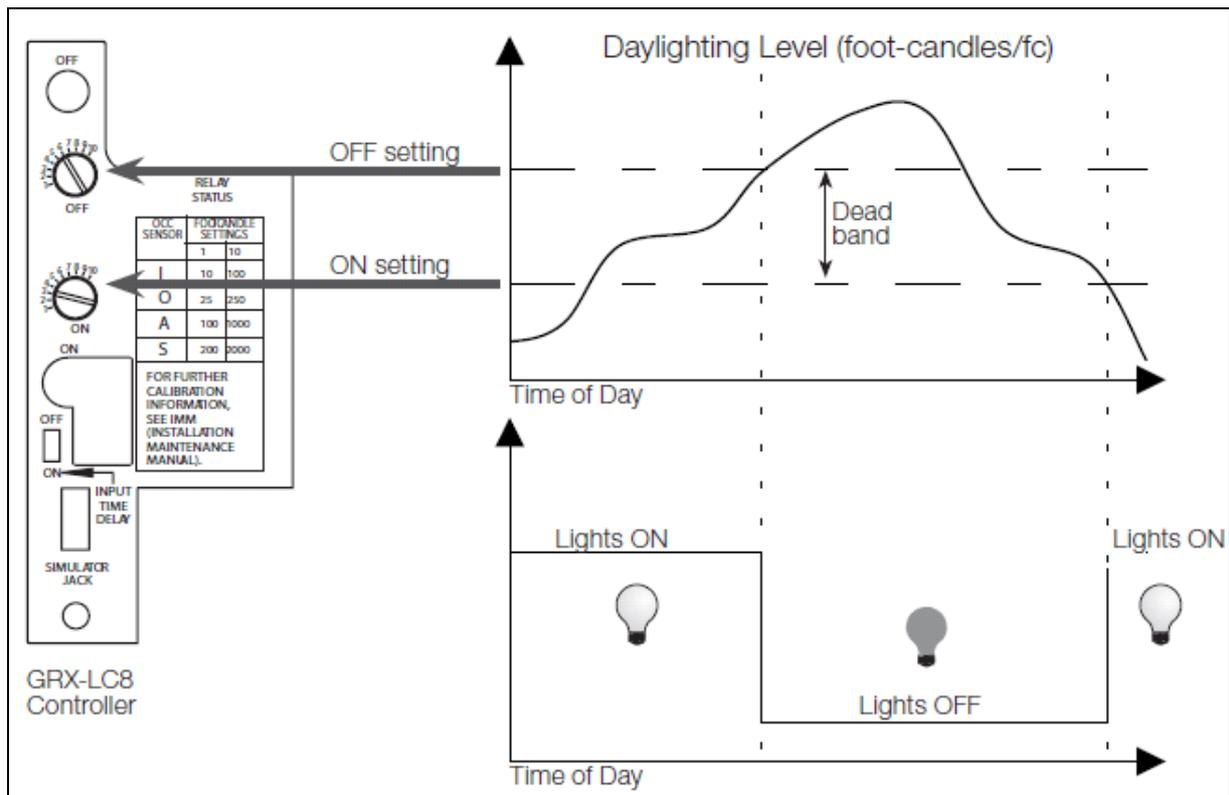

Figure 3
- Using the chart in Figure 2, adjust the ON and OFF adjustment knobs to calibrate the GRX-LC8 controller to the desired trigger levels of the contact closure output. For proper operation, set the ON knob at least 1 tick mark setting below the OFF knob to create a dead band. See Figure 3 as well as examples below.